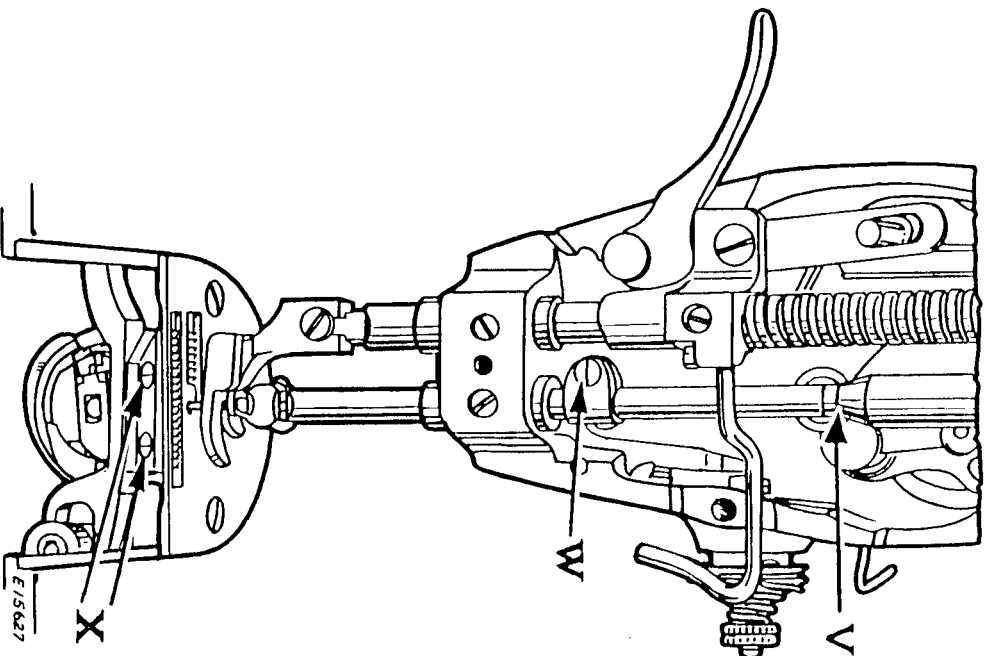

Fig. 24
The needle bar which is in the machine when shipped from the factory, has two timing marks near its upper end. Rotate the balance wheel until the needle bar moves down to its lowest position. The UPPER TIMING MARK on the needle bar should then be centered with the lower end of the needle bar bushing, as shown at (V) in Fig. 24. In case the needle bar is not set at the correct height, loosen screw (W, Fig. 24) and move the needle bar up or down until the UPPER TIMING MARK is centered with the lower end of the needle bar bushing, as shown at (V), then securely tighten screw (W).
Remove presser foot, slide plate, throat plate and bobbin case. Take out the two screws (X, Fig. 24), and remove feed dog.